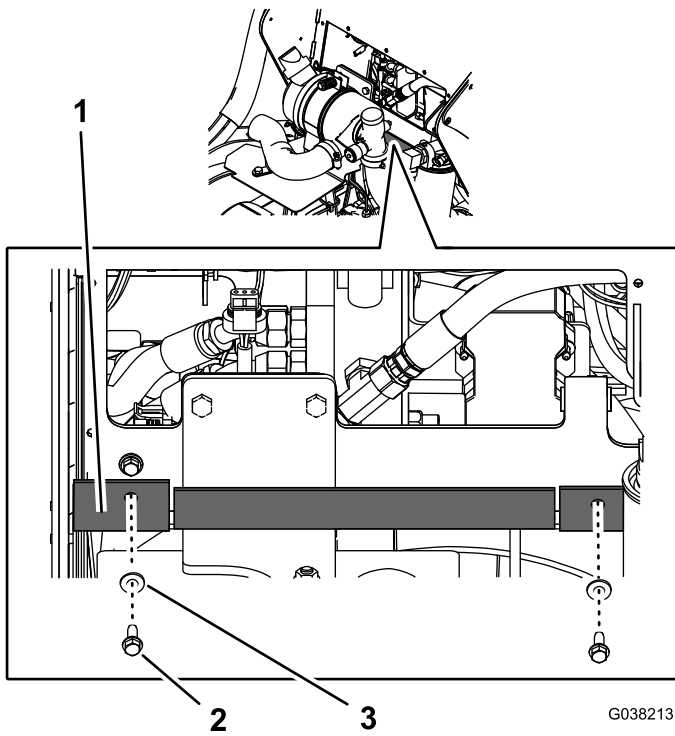

Figure 5
2. Remove the 3 flange-head capscrews (1/4 x 3/4 inch) and 3 washers (1/4 inch) securing the front of the rubber baffle to the bottom of the control panel frame (Figure 5).